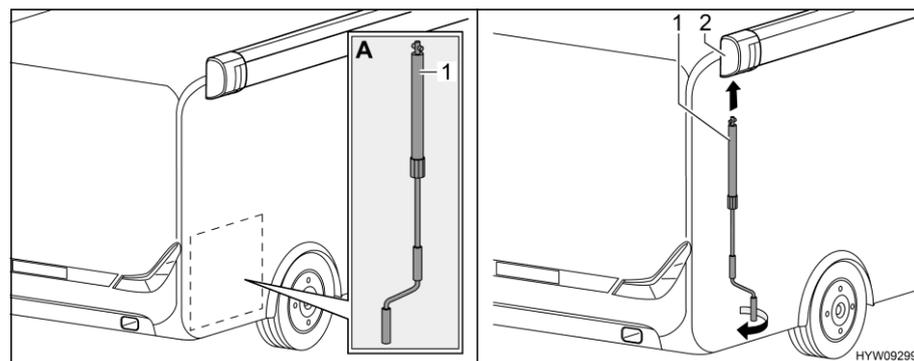

Fig. 32 Installing crank
- Take crank (Fig. 32,1) out of the rear garage (Fig. 32,A).
- Insert crank into bayonet socket (Fig. 32,2) of the awning.